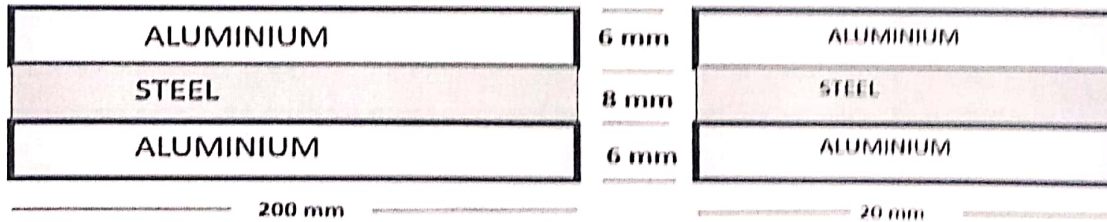

Figure Q2: Composite bar of Aluminum and Steel
- (a) A flat steel bar 200 mm x 20 mm x 8 mm is placed between two aluminum bars 200 mm x 20 mm x 6 mm so as to form a composite bar as shown in Figure Q2. All the three bars are fastened together at room temperature. Find the stresses in each bar where the temperature of the whole assembly is raised through 50 °C. Assume  $E_s = 200 \text{ GPa}$ ;  $E_{al} = 80 \text{ GPa}$ ; expansion ( $\alpha_s$ ) =  $12 \times 10^{-6}/\text{C}$ ; Coefficient of linear expansion ( $\alpha_A$ ) =  $24 \times 10^{-6}/\text{C}$ .